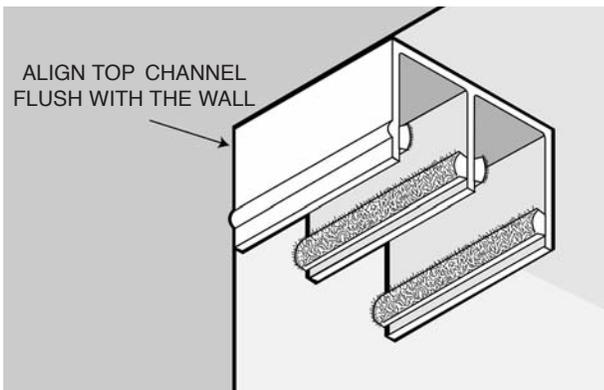

Figure 1
- When cut to proper length, install Ultraglide® Top Channel (#2) up to the top front of closet opening making sure that the front of the Ultraglide® Top Channel (#2) is flush with outside walls (See Figure 1). Hold up the Ultraglide® Top Channel (#2) in the desired position and with your Pencil, mark where the pre-drilled holes are in the Ultraglide® Top Channel (#2).